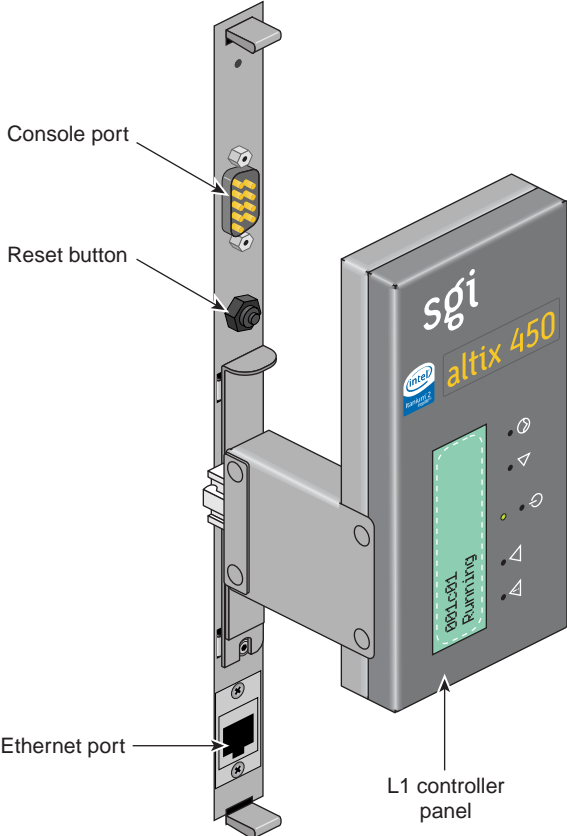

Figure 1-19 Location of the L1 Console Port
To attach a PC to your server system, connect a null modem serial cable between the PC and the Console port of the IRU (see Figure 1-19). To establish a connection between your system and the system console (PC), follow these steps: